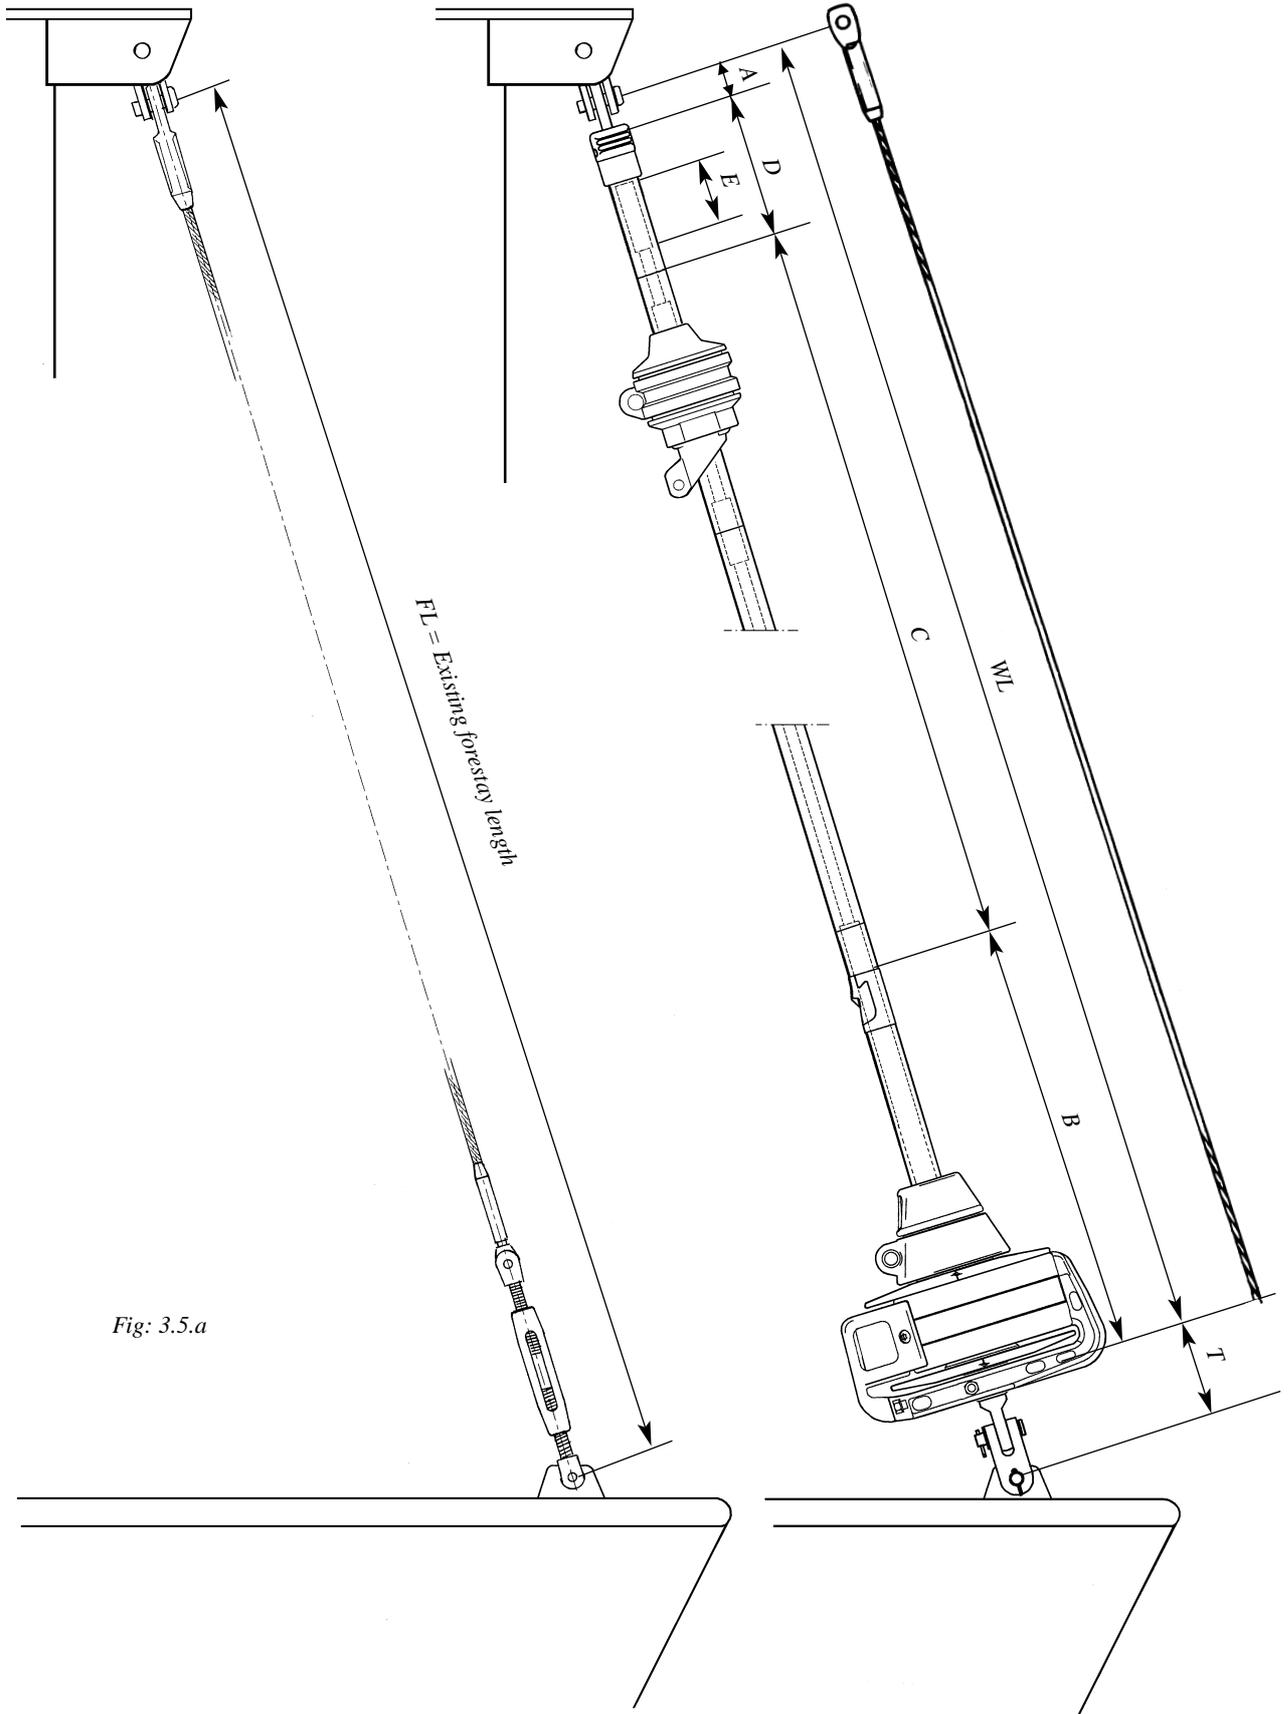

Fig: 3.5.a
16. Check the length FL of the stay acc. Table 1 (3.5.1) & fig. 3.5.a. Check that the setting is the same as the H-measurement as in table 1.